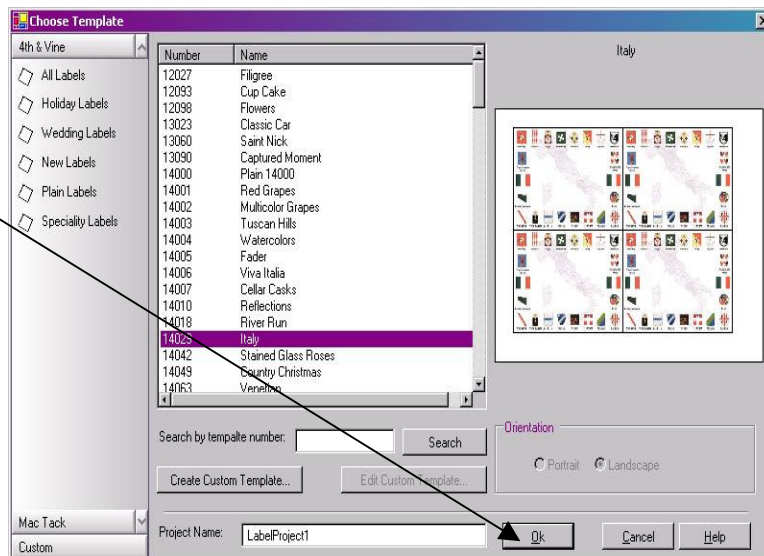

Figure 3.2.9: Chosen template
4. Click the  button once you have finished searching for the template you want to use and it is high lighted (see Figure 3.2.9).